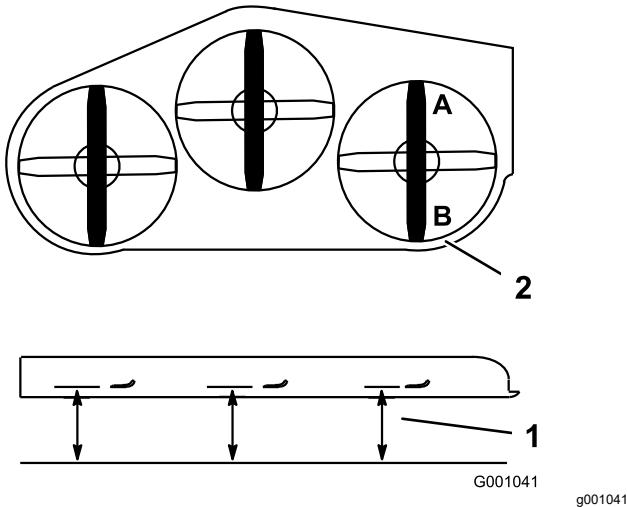

Figure 91
2. Position 1 blade front-to-rear. Measure at **A** and **B** locations from a level surface to the cutting edge of the blade tips (Figure 91).